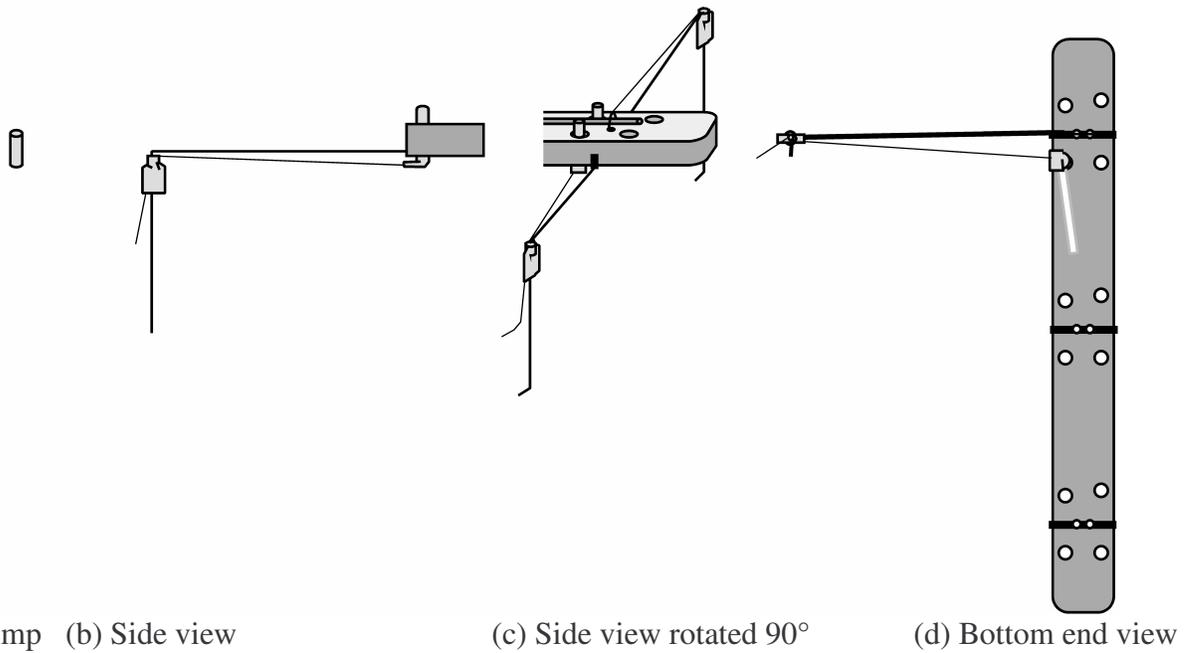

Figure 3: Leg crimp (views with respect to leg crimp)
**Insert Figure 3 here. Drawing**